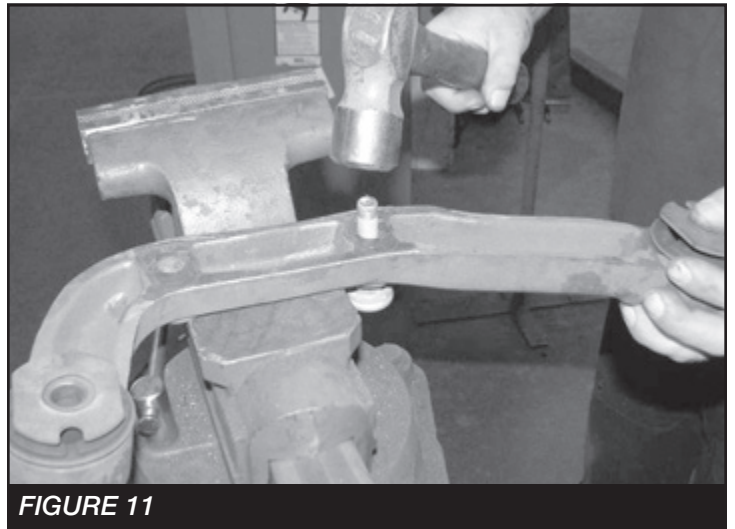

FIGURE 11
14. Remove the factory studs from the differential mount and discard. **SEE FIGURE 11**